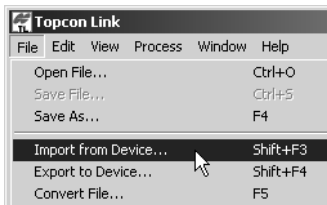

Figure 2-1. File->Import From Device
- Click **File->Import from Device** (Figure 2-1).